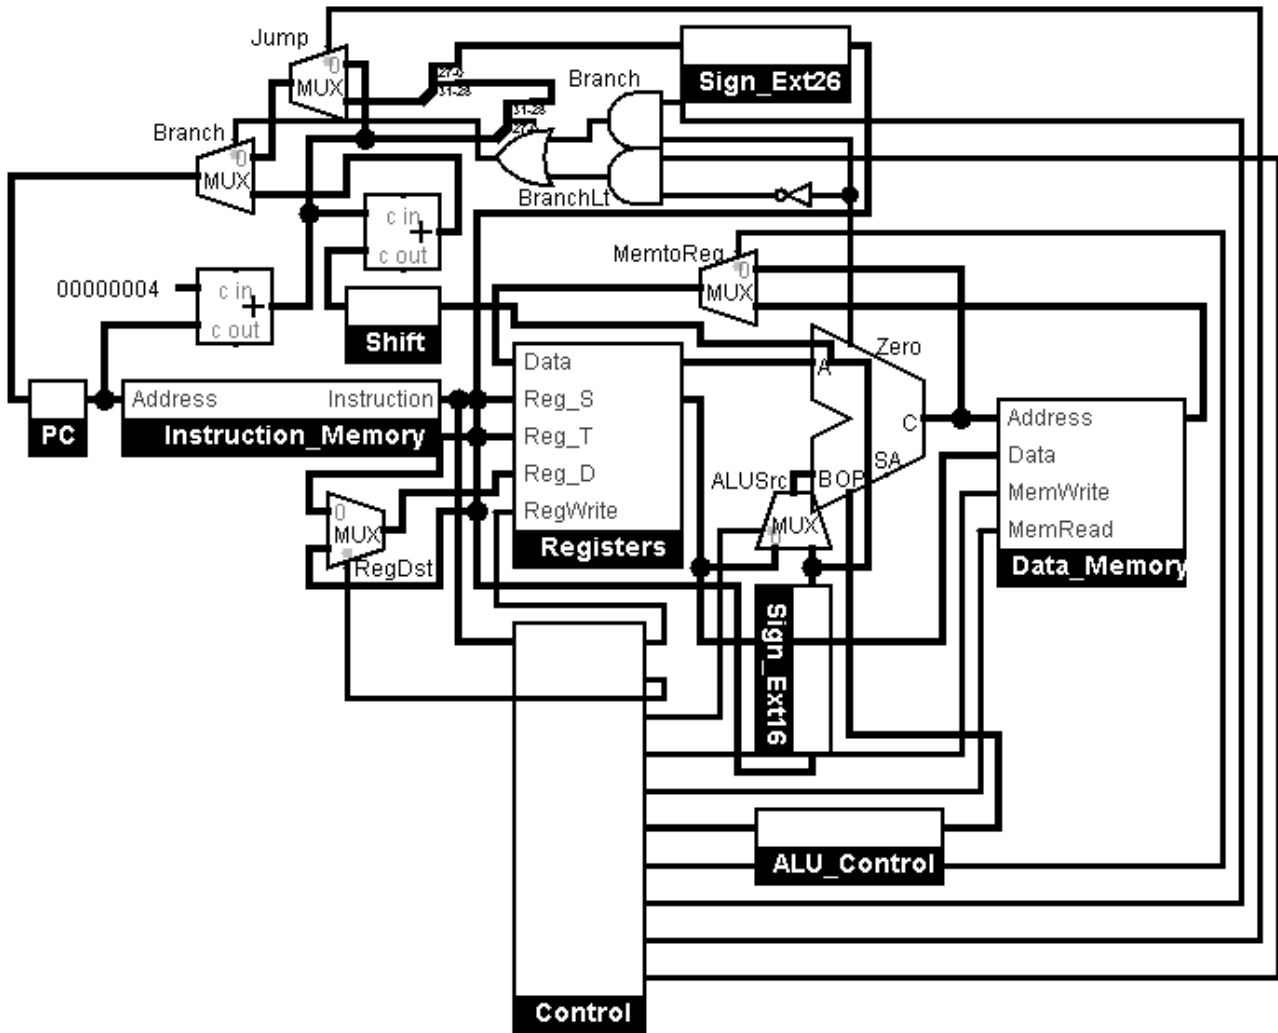

Figure 9: b1t Full Implementation
- augment the main control unit with a new signal `BranchLt` as seen in Figure 9: